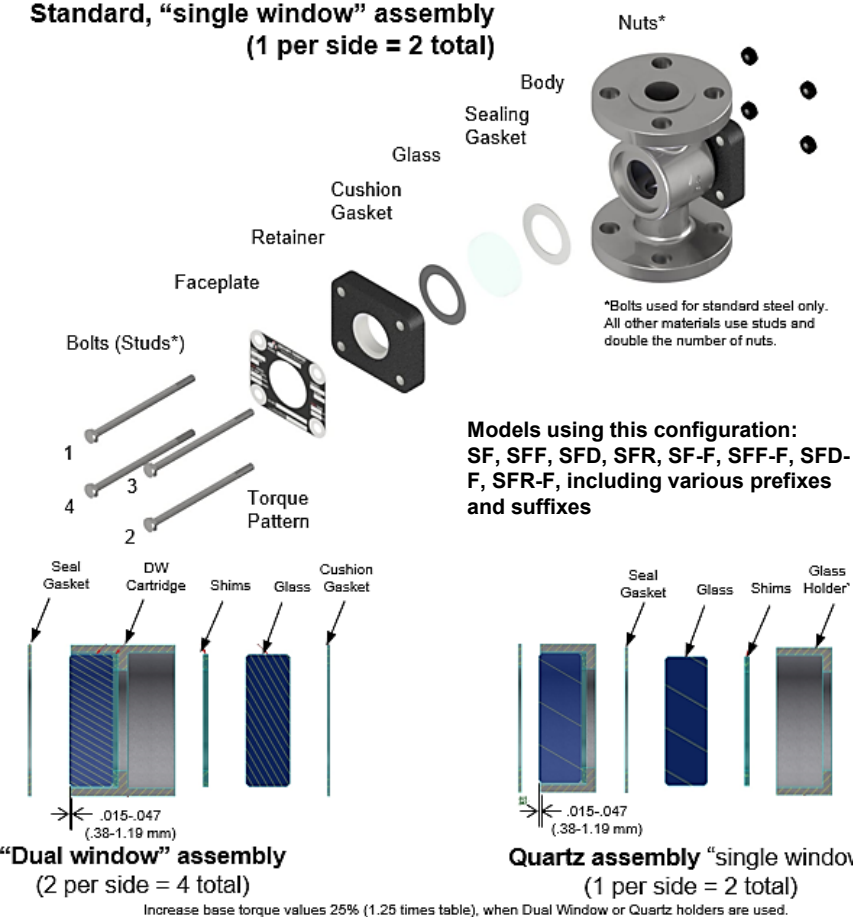

Figure 1: Marking
3. Tempered borosilicate glass is marked on the edge (perimeter) with a black dot (•) or a "T". Annealed borosilicate is unmarked. The nameplate indicates "T boro" or "A boro." (Figure 1) UniGlas, glass with a metal ring in one piece, has the ring material stamped in the OD.